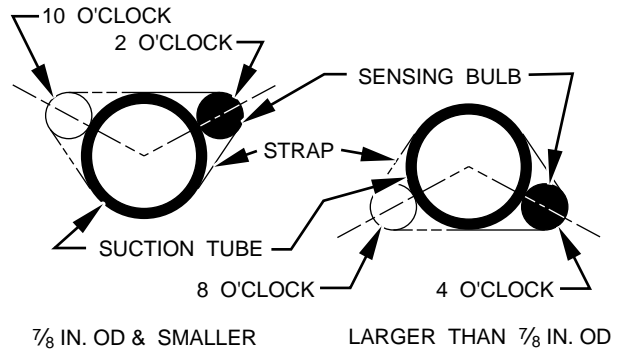

Fig. 8—Positioning of Sensing Bulb
5. Insulate bulb after installation. (See Fig. 8.)